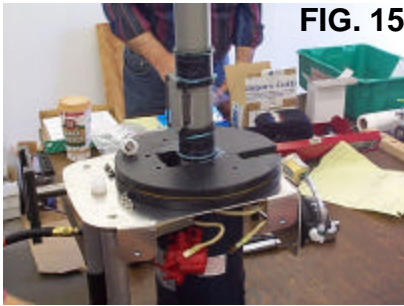

FIG. 15
8. Turn motor upside down again, bring slip ring shield back down to slip rings (fig. 15).